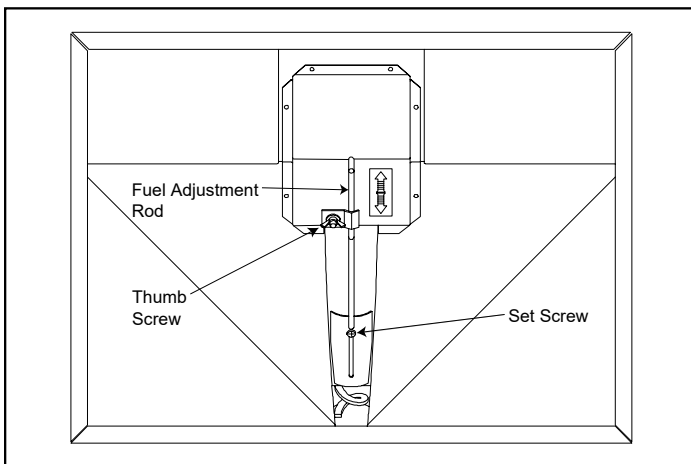

Figure 11.1
The feed adjustment control rod is factory set, and should be adequate for most fuels. The set screw is located at the bottom of the hopper and *set loose at the factory* so the fuel adjustment control rod will slide up and down by only loosening the thumb screw at the top (**Figure 11.1**). Do not re-tighten bottom set screw.
1. Loosen the thumb screw (**Figure 11.1**).